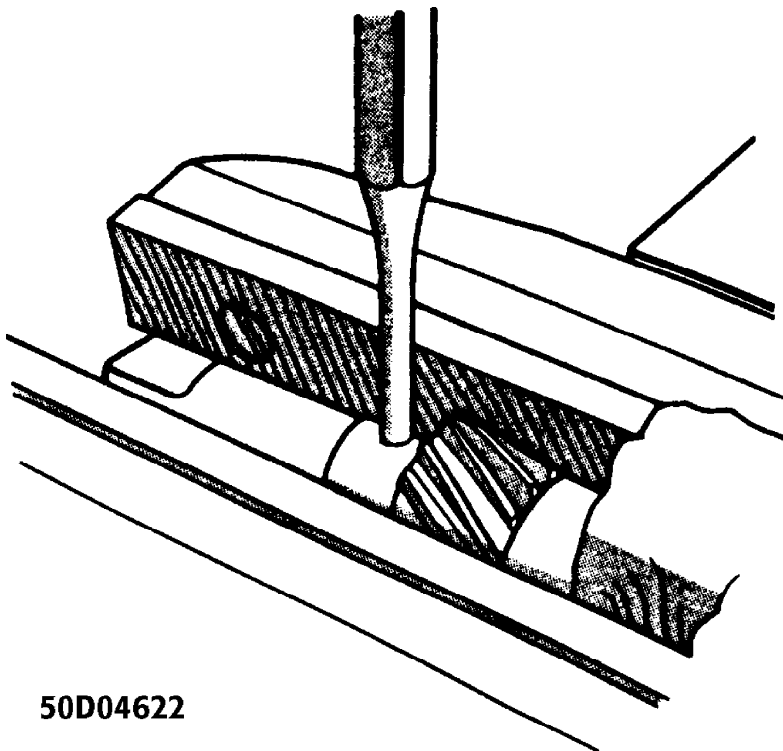

Fig. 29: Removing Distributor Gear Retaining Roll Pin
- 4) Remove the distributor gear from the shaft using a small punch and a hammer to drive out the retaining roll pin. See Fig. 29.